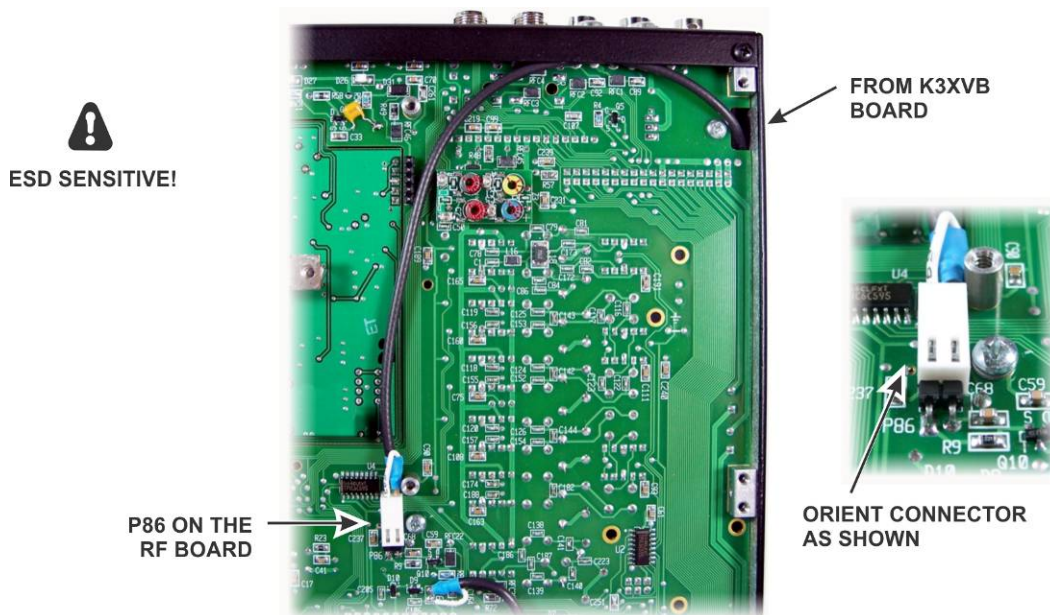

Figure 66. Routing the KXV3B Cable to P86.
- Turn the K3S over and plug the KXV3B cable into P86 on the RF board as shown in Figure 66.